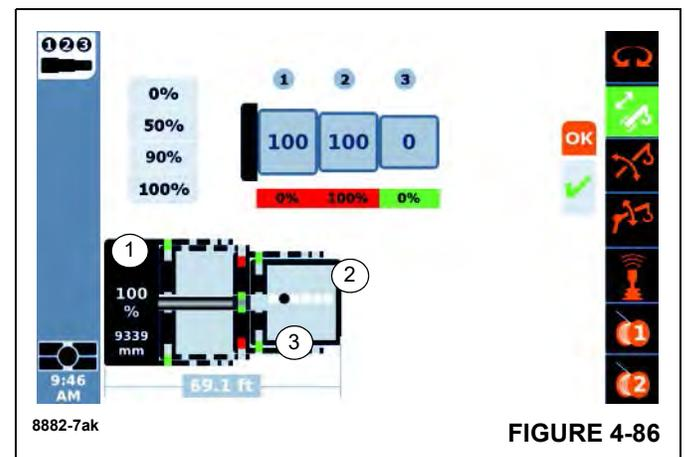
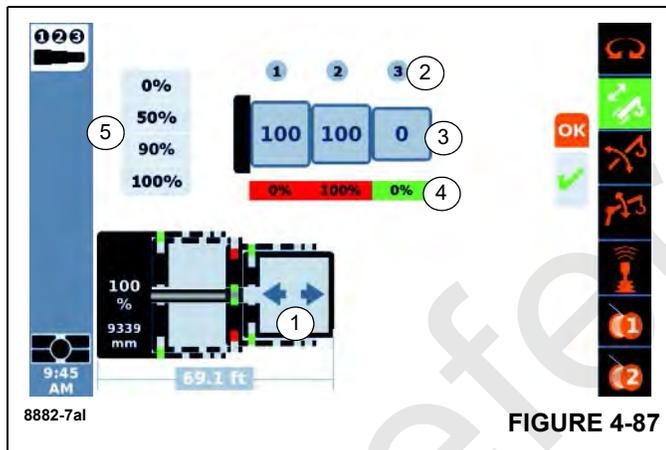

FIGURE 4-86
FIGURE 4-87
The Semi-Auto screen of the operating display (refer to Figure 4-86) shows a graphic schematic near the bottom of the screen that indicates the current status of the boom computed by the control system (however the operator must continue to monitor the status of the physical boom to compare with this schematic).
In (Figure 4-86), there is a 100% (1) shown for the position of the telescoping cylinder (above the 9339 mm distance value). The graphical representation of the telescoping cylinder rod protrudes horizontally from the left end of the schematic (near item 1). The end of the graphical representation of the rod at the T2 boom section which is at the 100% pinning location. The slightly larger rectangular entity at the right end of the telescoping cylinder rod represents the pinning mechanism.
The example in (Figure 4-86) shows the value of 9339 mm for the extension of the telescoping cylinder within the boom.
As mentioned earlier, there are times when the control system is performing automated motions. The example in (Figure 4-86) shows some dots (2) at the end of the schematic graphic. These dots, as well as the one dark dot cycling back and forth to the left and right (3), indicates that automated motions are occurring.
(Figure 4-87) shows the same screen when the operator is able to control motions of the boom sections. In this case, there is a left and/or right pointing arrow (instead of the dots shown in (2), (Figure 4-86)). As is consistent with the schematic's orientation, the left arrow indicates retracting the boom, the right arrow indicates extending the boom. The control device (typically the joystick in the standard joystick option) would be moved to the left to retract the boom, and it would be moved to the right to extend the boom (while keeping in mind that only one boom section - the boom section the telescoping cylinder is locked to - would be moving).
The arrows (1), (Figure 4-87), at some point in the telescoping process, will blink. The blinking is an indication that an unlocking or locking event will occur if the operator holds the joystick in the direction of that arrow for at least 1 second. If this event begins, then the screen will change to the dots (as described for (Figure 4-86)) so that the operator knows that an automated motion or action is again occurring.
As seen in (Figure 4-87), there are sets of numerical values at the top portion of the screen above the graphical schematic of the boom. First, there is a set of values in a top row with values of 1 to 3 in circles (2), (Figure 4-87). The 1 to 3 in the circles indicate the telescoping boom sections (or "tele sections"). The 1 is for the boom section that is the largest and closest to the base section. This is referred to as T1. This then proceeds from T2 to T3 for the 2 to 3 values.
The values under these boom section indication numbers represent the requested final boom configuration (or "target tele picture"). (Figure 4-87) shows this set of values as 100-100-0 (3). This means that T1 is to be extended to its 100% pinning location, T2 is to be extended to its 100% pinning location, and T3 remains fully retracted, 0%, pinning locations. It is vital that the operator understand that this requested final boom configuration is the first step in operating the pinned boom in the Semi-Auto Mode. Everything the control system performs with the Semi-Auto Mode is dependent on this requested final boom configuration.
Second, there is a set of percentage values shown under the requested final boom configuration values. In (Figure 4-87), these are shown as 0%-100%-0% (4). This represents the control system's currently computed actual boom configuration (or "actual tele picture"). This can be understood as what the boom likes "now" (but as mentioned above the operator must be aware of the physical boom to compare to these values). As the boom is operated, this computed boom configuration will change (just as the schematic graphic for the boom system will change on the display). But the operator should realize that the requested final boom configuration will not be changing as the boom is operated (it is the final destination for the boom motion).
Third, there is a list of percentages on the left (0%, 50%, 90%, 100%) (5), (Figure 4-87). These percentages are the available pinning locations for the boom sections. They represent an extent of the distance along the next larger boom section where the boom section can be pinned - i.e. locked to the next larger and encompassing boom section. The 100% is not the extreme end of the next larger boom section, but the farthest available pinning location (there will always be some overlap between boom sections). The list of percentages are command buttons in the control system interface; a value can be highlighted, and then an Enter button used to actually select the value in the list. When an Enter button is used in this manner, it sets all the values for the boom sections for the requested final boom configuration to that value. For example, if Enter is used on the 50% button, then all the values in the top row of the display will be near 50 (thus requesting the final boom configuration of 50-51-51).
- Using the operating display, the Enter button is used for the OK shown on the screen. This sends the requested data to the control system. If this configuration is considered acceptable, a check-mark will be shown below the OK (as is seen in (Figure 4-87)). If the configuration is not considered acceptable, a red X will be shown instead of the check-mark. As an example, a requested final boom configuration of 50-0-50 is not allowed (the T2 section was “skipped” for having a non-0% pinning location).
- Once the boom section is unlocked, the telescoping direction arrows, as shown in (Figure 4-87), will appear.
- When the T1 boom section is unlocked, the left and right telescoping direction arrows will appear again (as is shown in Figure 4-87).